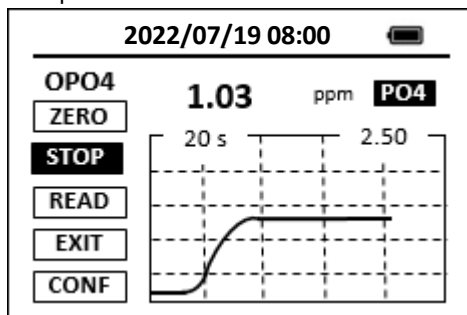

Figure 10. Concentration as a Function of Time
3. Place sample vial back into the sample vial compartment and press the timer button **TMR1**. The AP50MM will start to monitor the reaction between the reagent and the species you want to measure in the water sample. The concentration is shown in the chart as a function of time (Figure 10).